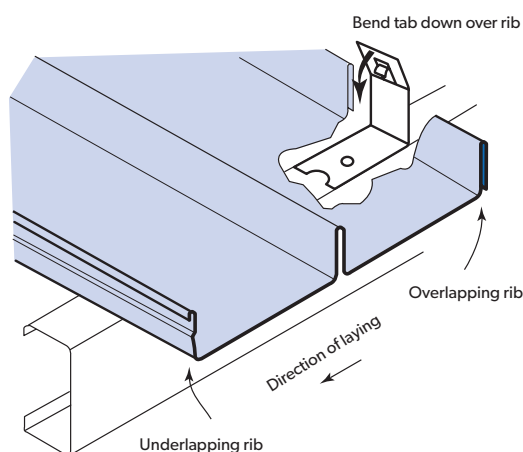

Figure 10.3.3:
3. Bend the tab of all clips over the rib (Figure 10.3.3).